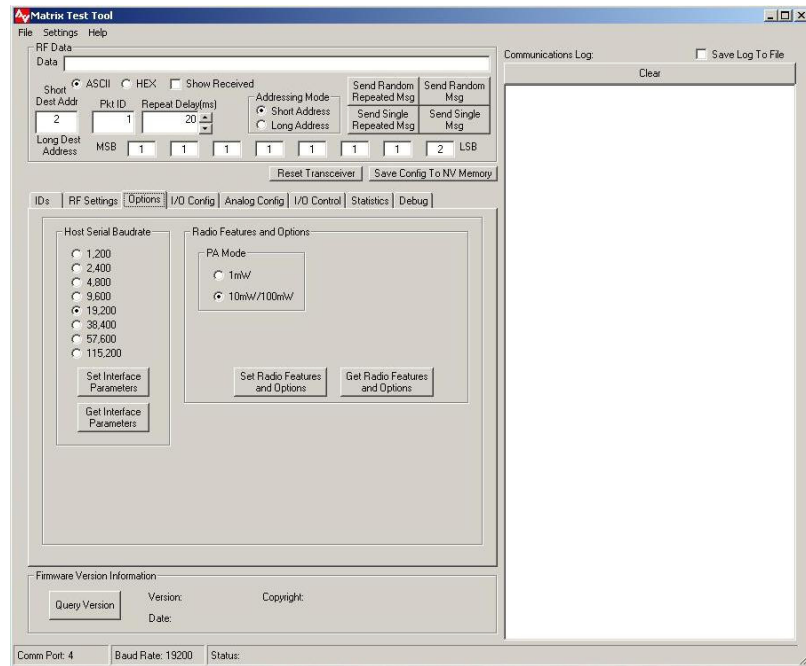

Figure 4-4. Options
4.2.6 Options (See Figure 4-4)
The Options page can be accessed by selecting the *Options* tab in the software, and is shown in Figure 4-4. The following features are provided in the Options page.